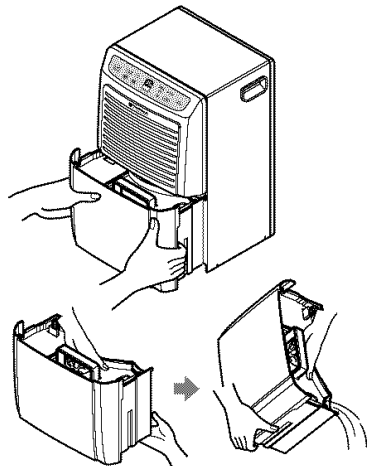

Figure 1
1. When the bucket is full, slide it out by grasping the handle and emptying it into a large sink or tub, and then replace it properly. See Figure 1.